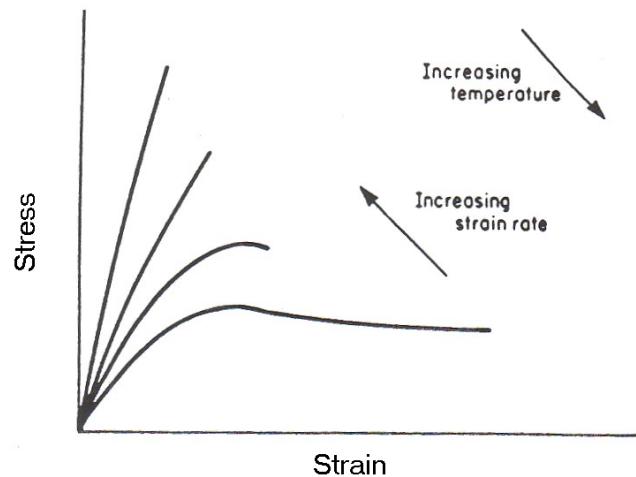

Figure 1: Effect of strain rate and temperature on the stress-strain response of polymers
- (c). Figure 1 shows the effect of temperature and strain rate on the stress-strain response of polymers. Discuss with a suitable example why the mechanical behavior of polymers is affected by the strain rate and temperature.